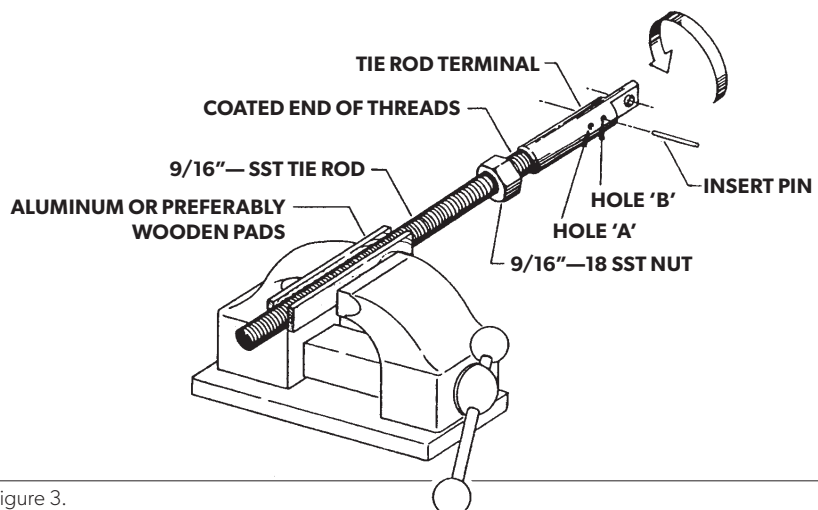

Figure 3.
- Lightly clamp threaded tie rod in vise using aluminum or preferably, wooden pads (to prevent damaging threads) as shown in figure 3.